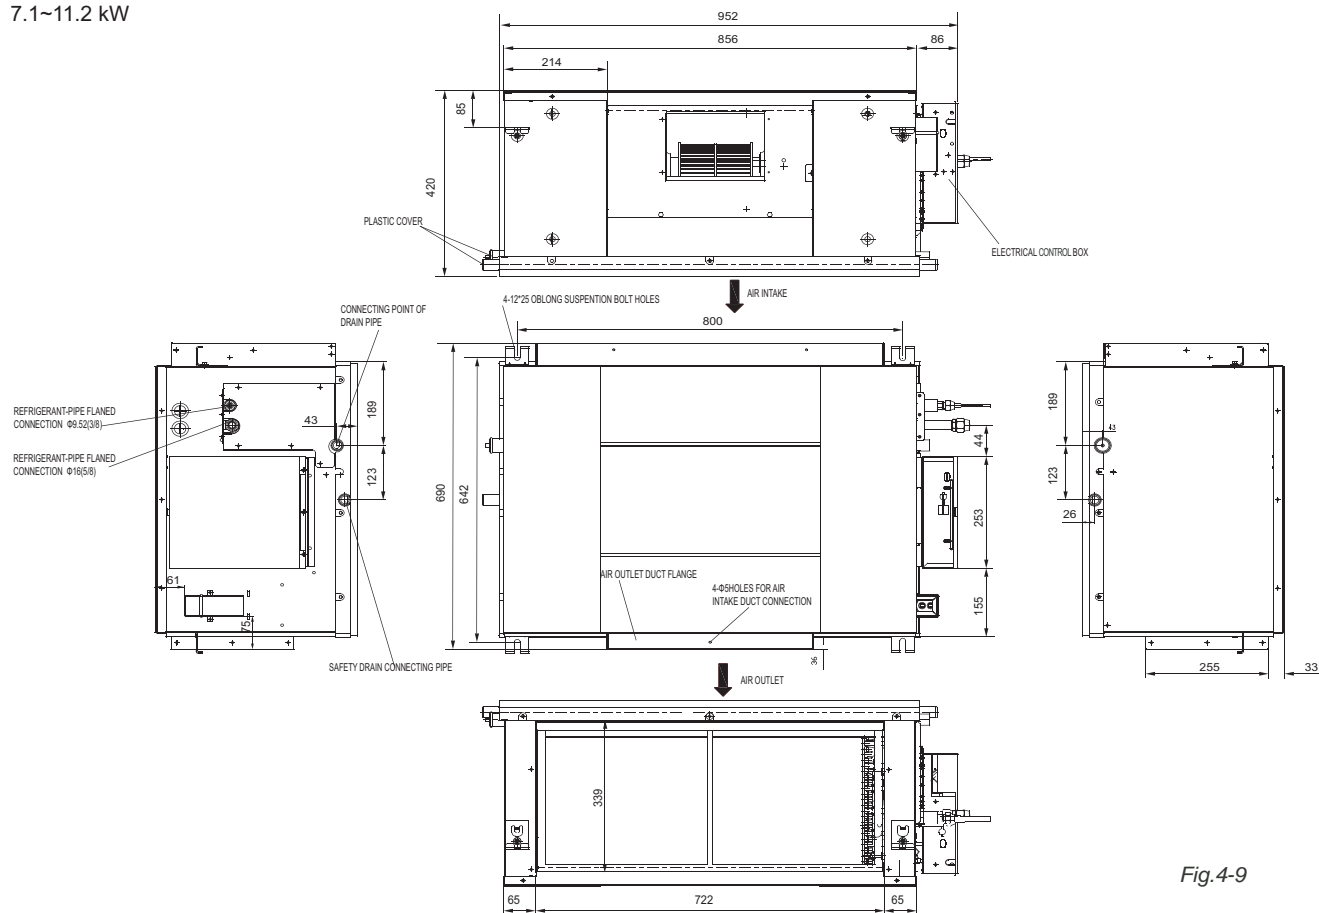

Fig.4-9
- ① Routine method of installation: the size of installation for indoor unit following Fig.4-9
- ② Please install with $\Phi 10$ hanging screw bolts.
- ③ Carry out the pipe and line operation in the ceiling after finishing the installation of the main body. While choosing where to start the operation, determine the direction of the position the refrigerant pipes, drain pipes, indoor & outdoor lines and line-controlled lines to the connection places before.